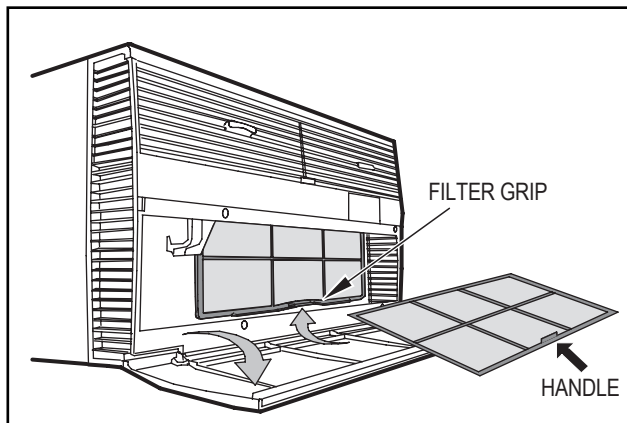

Figure C.7.2
STEP 1. Swing the door open and remove the filter by grasping the filter grip and pushing the filter holder upward and outward. (See Figure C.7.2)